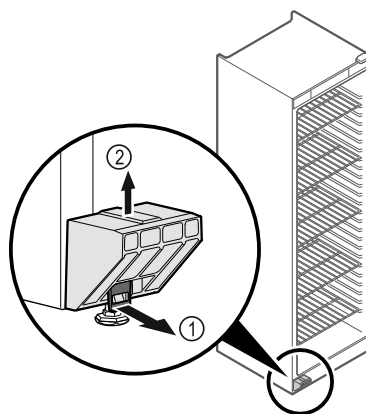

Fig. 4
- ▶ Pull tab Fig. 4 (1) forwards.
- ▶ Take off transport lock Fig. 4 (2) in upwards direction.